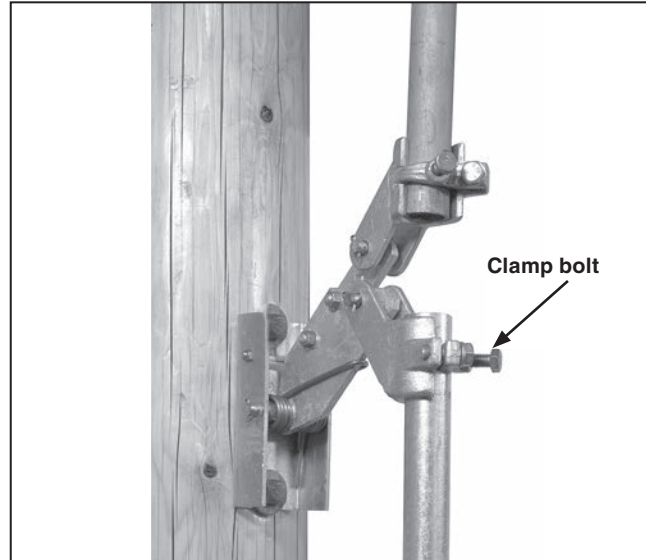

Figure 33. Torquing the clamp bolt at the lowest rod guide (or switch operating lever) coupling.
STEP 31. If there is still slack, repeat the procedure in Step 27 but move the operating handle *more* than 20 degrees in the opening direction before torquing the clamp bolt on the lowest rod guide (or switch drive lever) coupling. See Figure 33.